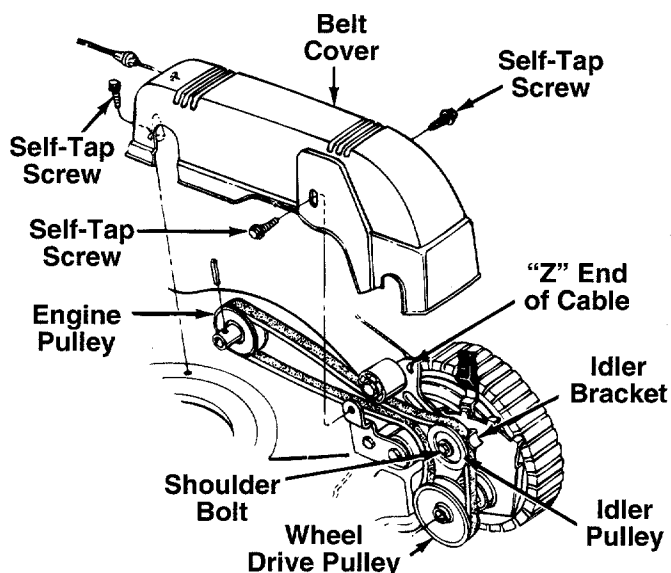

FIGURE 17.
4. Remove the belt cover by removing three self-tapping screws. See figure 17.
5. Unhook "Z" end of drive cable from idler bracket assembly. See figure 17.
6. Remove idler pulley from idler bracket by removing the shoulder bolt, flat washer, cupped washer and hex nut. See figure 17.